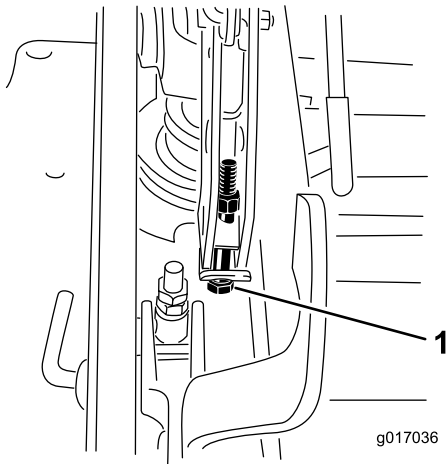

Figure 98
11. If the deck is too low, tighten the single-point-adjustment bolt by rotating it clockwise. If the deck is too high, loosen the single-point-adjustment bolt by rotating it counterclockwise (Figure 98).